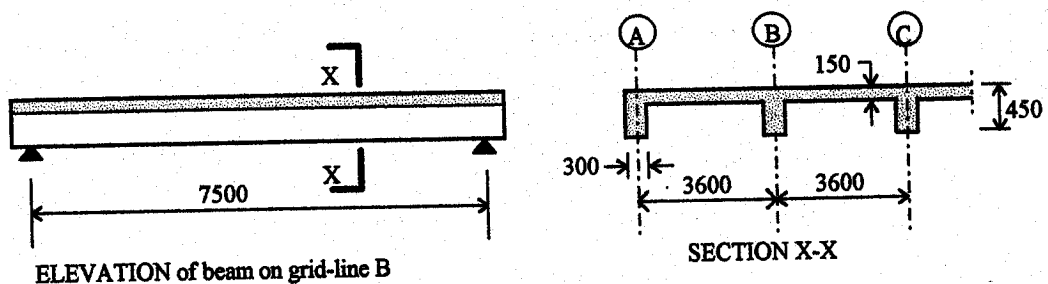

Fig. Q4
4. Fig. Q4 shows an edge section for a suspended r.c. floor, which has an effective span of 7.5m. The floor is of beam-and-slab construction, having an overall depth of 450. Beam ribs are 300 in width and spaced at 3600 centres.